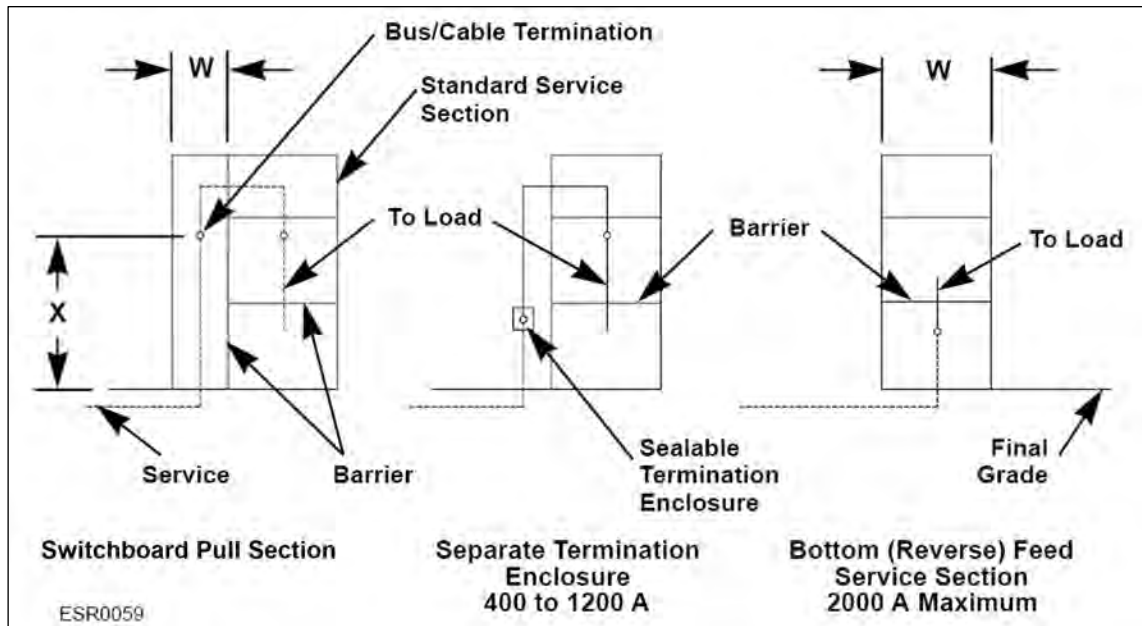

Figure 90: Underground Service Termination Switchboard Service Section, 400 to 3000 A, 0 to 600 V (EUSERC 345)
- For pull section details when used on underground services, see **Figure 90** (or refer to EUSERC 345) and **Table 23**.
Table 23: Minimum Pull Section Dimensions (Applies to Figure 90 only)
Follow these requirements when installing an underground service termination **switchboard** service section, 400 to 3000 A and 0 to 600 V (EUSERC 345), such as that shown in **Figure 90** above:
- The minimum dimensions in **Figure 90** are for vertical entry at the top or bottom only. Side or rear entry of the service cable into the pull section may require a greater dimension than that shown in **Table 23** above.